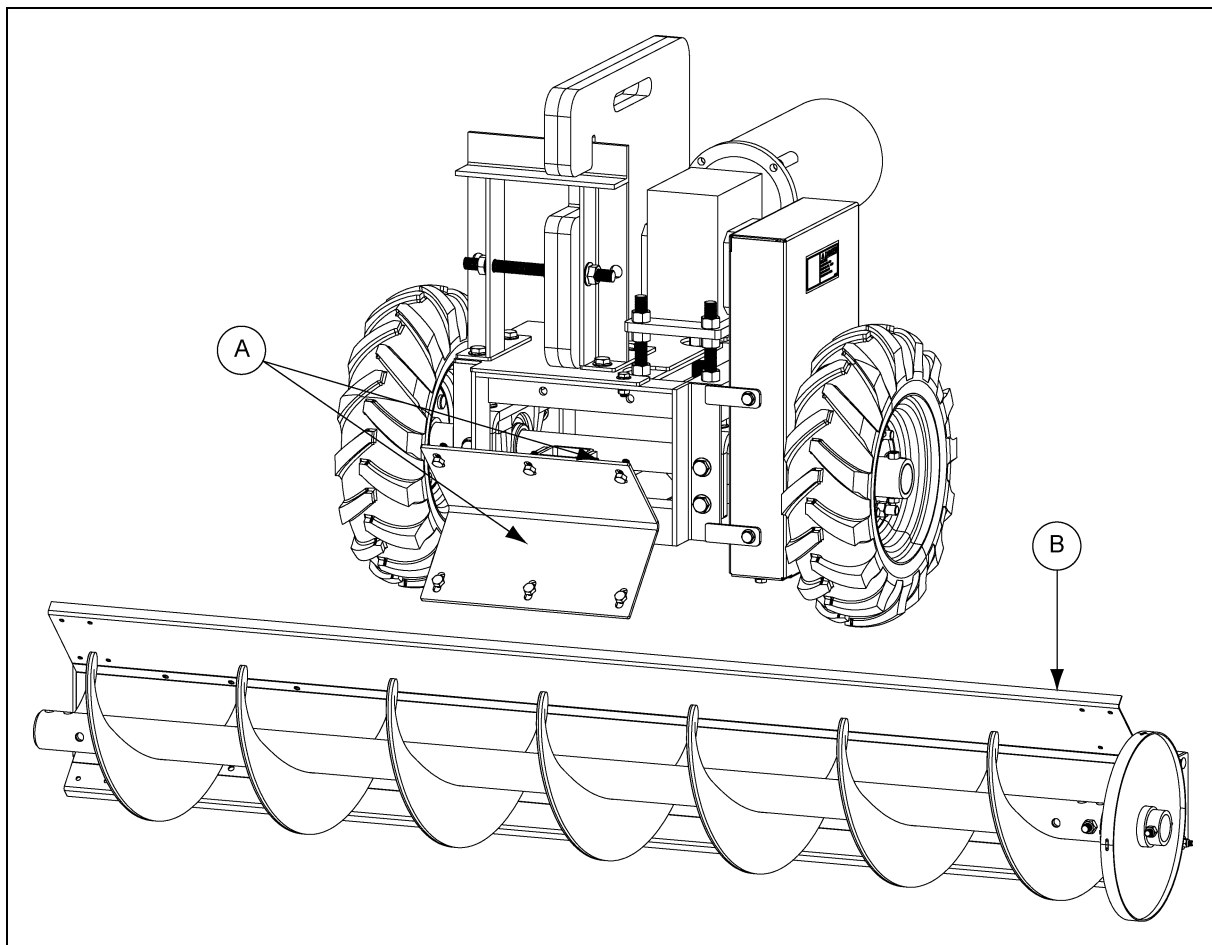

Figure 4AB Sweep Tractor to Shield Assembly
4. After marking the hole locations, drill six (6) 7/16" holes and attach the sweep tractor to the back shield (B) using six (6) 3/8" x 1" hex head cap screws, flat washers and nylock nuts.
5. Install electric wiring for motor and controls. (See Figure 4AB.)